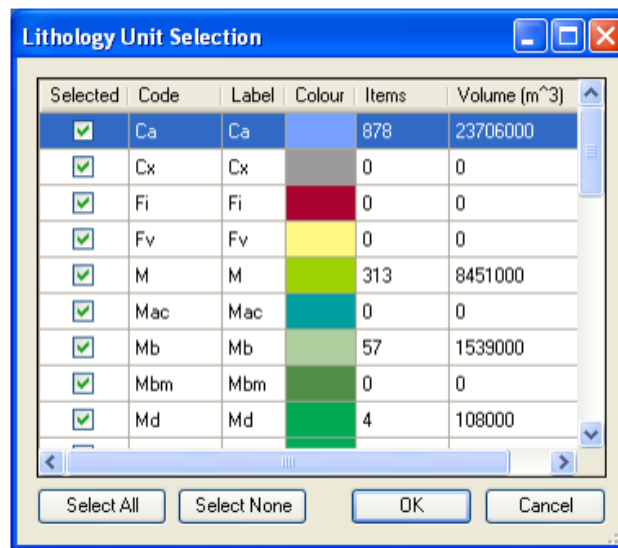

Figure 1.96. –3D Lithology Unit Selection
1. Select the [**Lithology Unit Selection**] button and the *Lithology Unit Selection* dialog will be displayed, fig. 1.96.